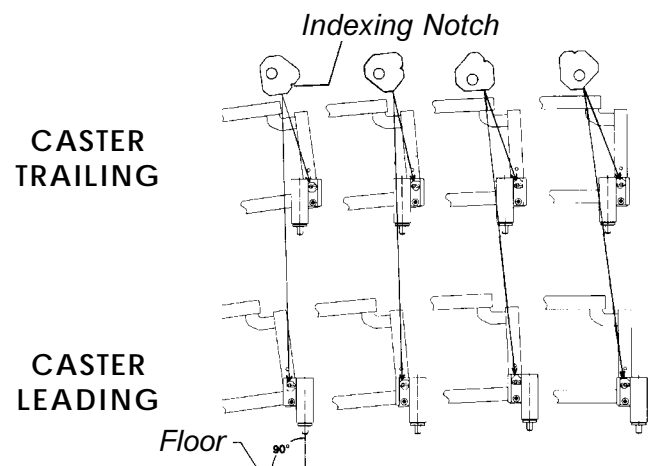

FIGURE 3 - ADJUSTING FRONT CASTER HEADTUBES - PRO-SA MODEL WHEELCHAIRS
Pro-SA Model Wheelchairs (FIGURE 3)
*NOTE: As shown in **FIGURE 3**, the adjustment cam can be rotated to several different positions thus changing the overall caster headtube angle relative to the seat frame angle.*